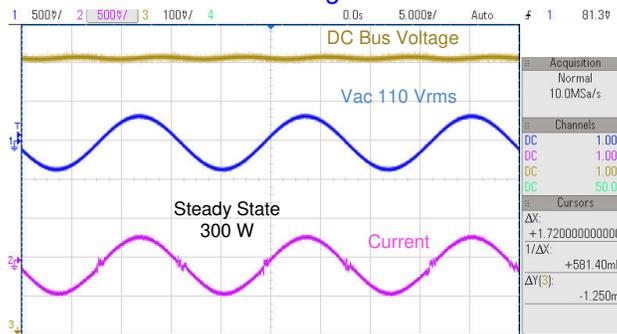

Figure 3-23. Input AC input, Current and Output DC Voltage Waveform
4. Now slowly increase TTPLPFC_ac_cur_ref_pu to 0.14, that is, 2.4-A input, and the bus voltage rises to 380 V. The voltage and current waveform are shown in Figure 3-23.